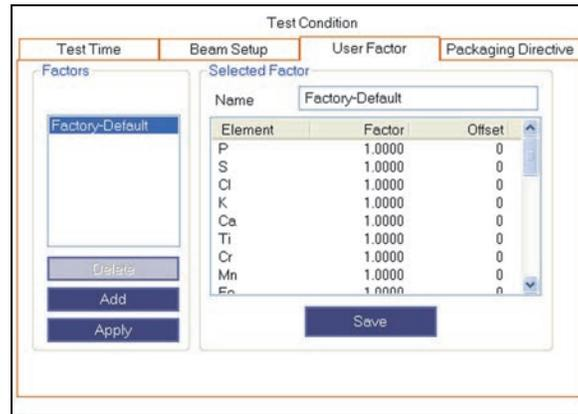

Figure 3-4 The User Factor tab
3. On the **User Factors** tab, click **Add** (see Figure 3-4 on page 66).